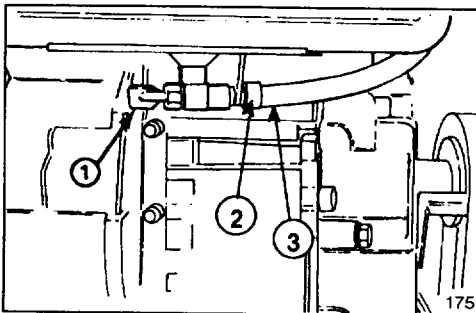

Figure 23
1. Close fuel shut-off valve located under engine (Fig. 23).
3. Loosen hose clamps securing fuel line to valve and slide line off valve (Fig. 23).